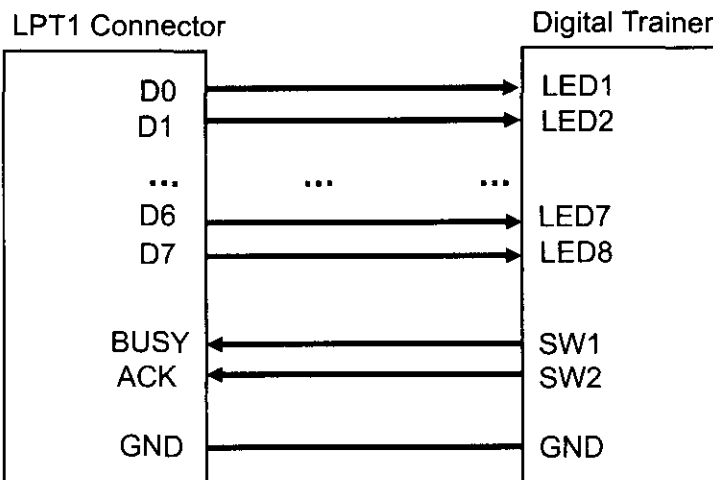

Figure 28-1. Switches and LED Connections to LPT1 for Example 28-10
2. Connect SW1 of your digital I/O trainer to the BUSY status signal of printer. BUSY is bit 7 of the status port. See Figure 28-1.